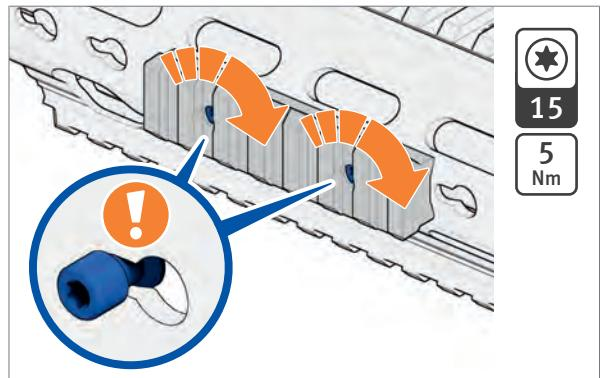

Fig. 45: Tighten screws for Picatinny rail
4. Tighten locking screws for Picatinny rail clockwise with torque wrench until the torque is reached (Fig. 45).